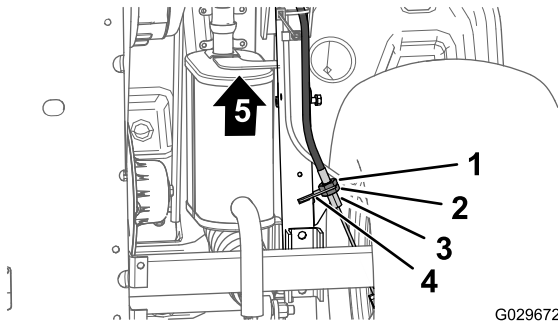

Figure 62
3. At the bottom of the machine, loosen the rear-jam nut for the threaded adjuster of the parking-brake cable 4 turns (Figure 62).
4. Tighten the forward jam nut (Figure 62).
- A. Loosen the forward-jam nut (Figure 62) for the threaded adjuster of the parking-brake cable 1 turn.
- B. Tighten the rear jam nut (Figure 62).
- A. Loosen the rear-jam nut (Figure 62) for the threaded adjuster of the parking-brake cable 1 turn.
- B. Tighten the forward jam nut (Figure 62).